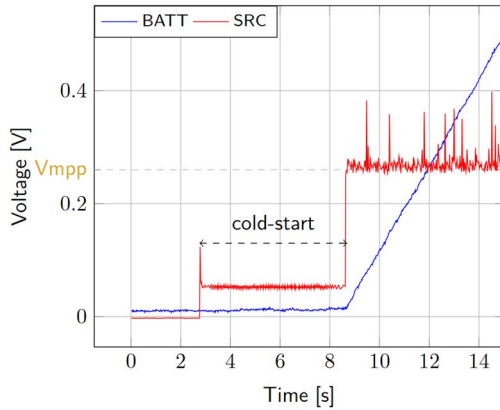

Figure 7: AEM20940 behavior during cold start
- **SRC**: Connect your source element. To match Figure 7 voltages, set the source compliance to 500mV. This is to ease differentiating the cold start voltage (about 60mV) from the MPP voltage ($50\% * 100\text{ mV} = 50\text{mV}$).
- **SRC**: Equal to the cold-start voltage during the cold-start phase. Regulated at the selected MPPT percentage of V_{OC} when cold start is over. (See Figure 7). Be careful that the cold-start phase time will shorten with the input power. Limit it to ease the observation.
- **BATT**: Starts to charge when the cold-start phase is over (see Figure 7).